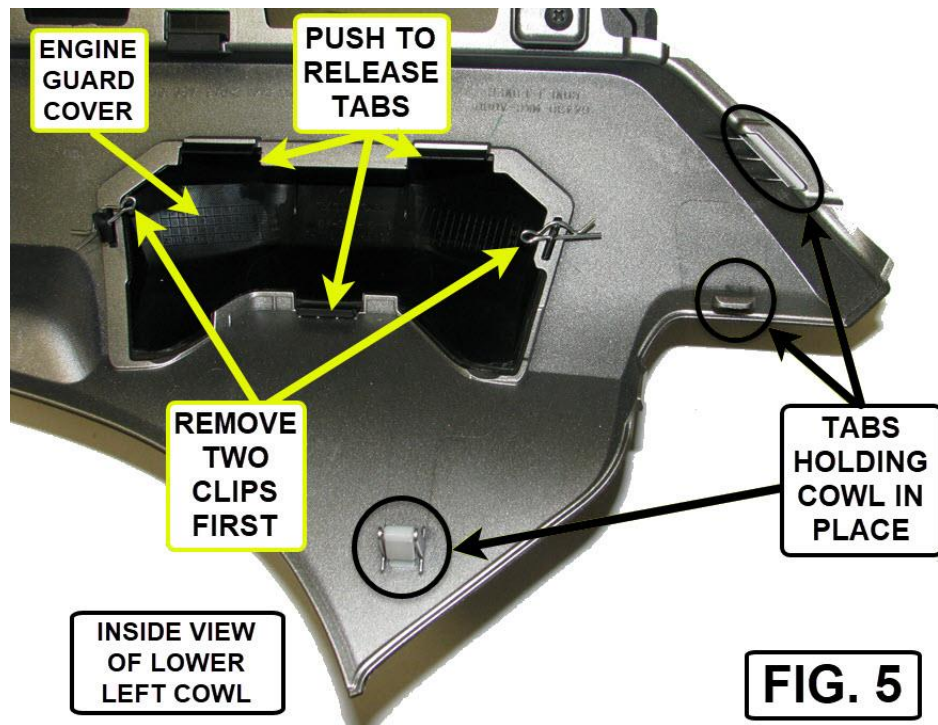

FIG. 5
- USING FIG. 3 AND FIG. 5 FOR REFERENCE, CAREFULLY RELEASE THE LEFT LOWER COWL TAB FROM THE LOWER SHROUD.
- REMOVE THE TWO CLIPS FROM THE ENGINE GUARD COVER (FIG. 5 SHOWS INSIDE OF THE LEFT LOWER COWL) CLIPS WILL NOT BE REUSED.